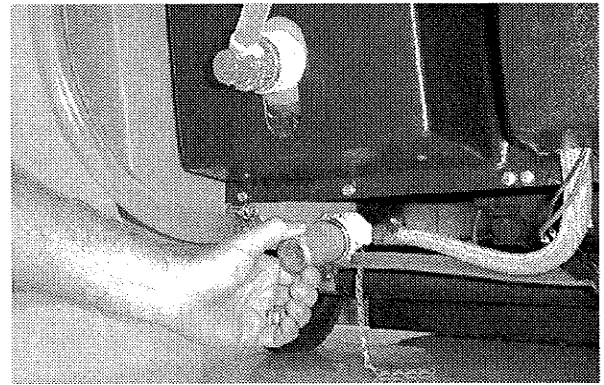

FIG. 40
5. Remove filter bowl, located under machine, and empty (Figure 40).